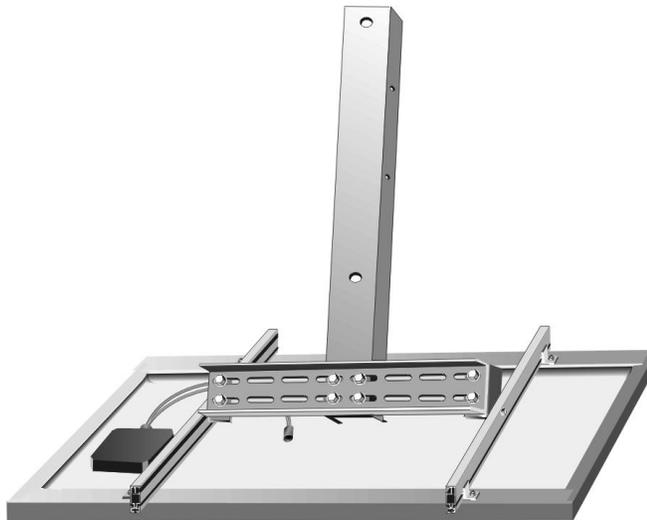

Figure 12 Attaching the Mounting Adaptor to the PV Panel Rack Assembly
1. Place the mounting adaptor on the channel as shown in Figure 12.